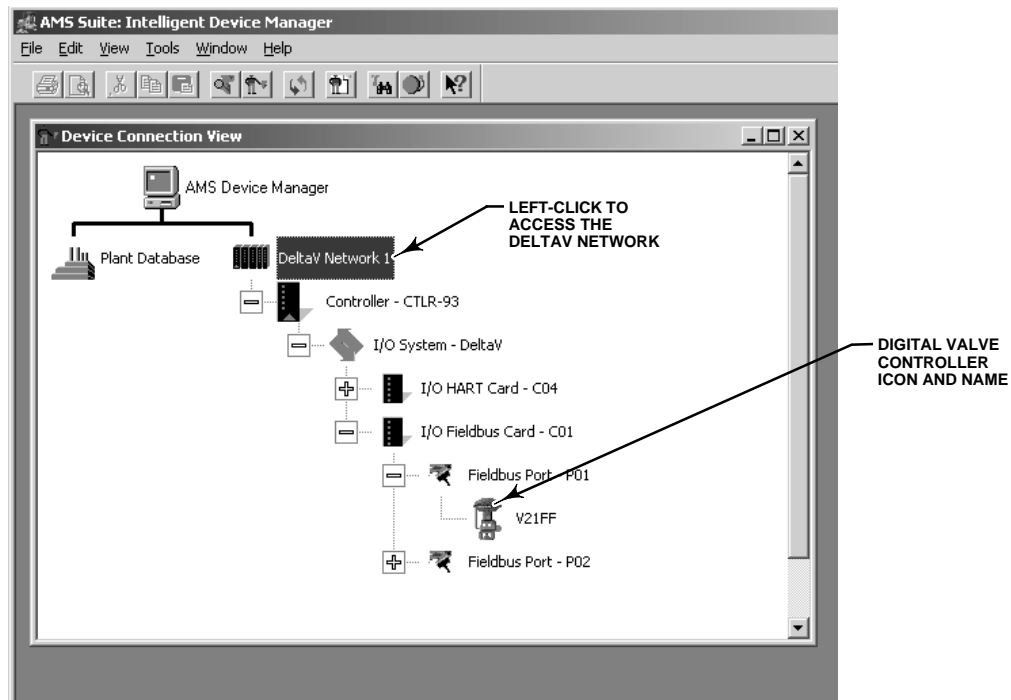

Figure F-2. Accessing the Digital Valve Controller Through AMS Device Manager
4. Navigate to the digital valve controller icon or name as shown in figure F-2 and left-click.
For detailed information on the parameters that are changed via the transducer block, refer to the Detailed Setup section of this manual. Refer to figures F-2, F-3, and F-4 for information on accessing transducer block parameters.
For detailed information on the parameters that are changed via the resource block, refer to the Detailed Setup section of this manual. Refer to figures F-2, F-3, and F-4 for information on accessing resource block parameters.
F-12 Navigate to the digital valve controller icon or name as shown in figure F-2 and left-click.